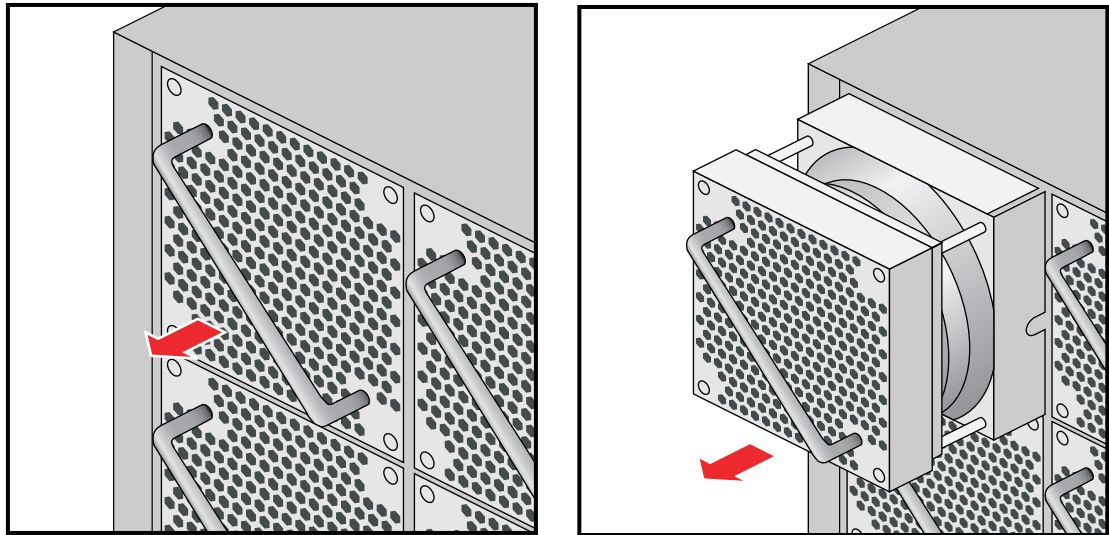

Figure 6-7 Removing a Fan From the Rear Assembly
1. Open the rack's rear door and identify the fan that has failed, see Figure 6-7.